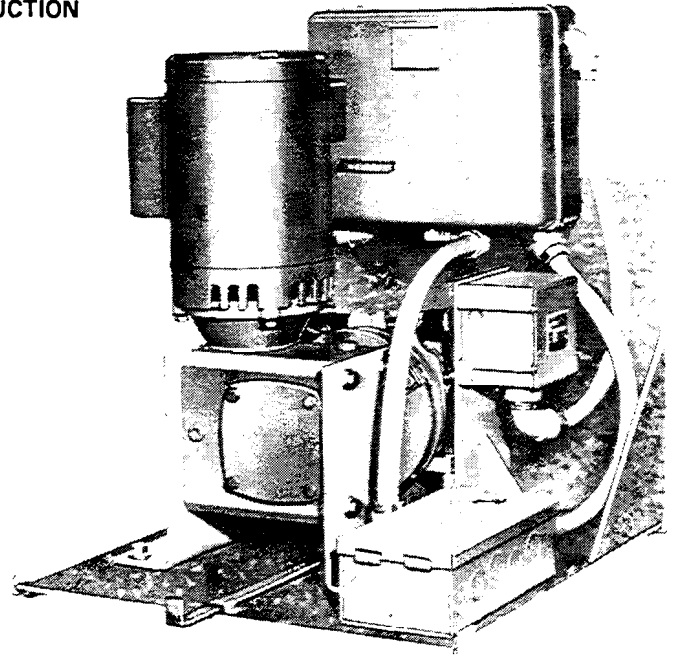

Figure 1. 1295 Slide Gate Operator
(1) **GENERAL:** The 1295 Electric Operator consists of an instantly reversible gearmotor, solenoid brake, a safety friction disc clutch, an emergency release which can be locked open or closed, a reversing starter with overload protection and a fully automatic limit switch. This unit is compact, easy and economical to install, and is completely wired at the factory. (Figure 1) All items are mounted on a heavy steel base and are protected by a weather resistant cover with padlock attachment.